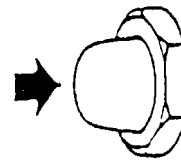

Figure 43. Emergency Stop Button
1. To stop the engine in the event of an emergency, **PUSH** the emergency stop button (Figure 43).